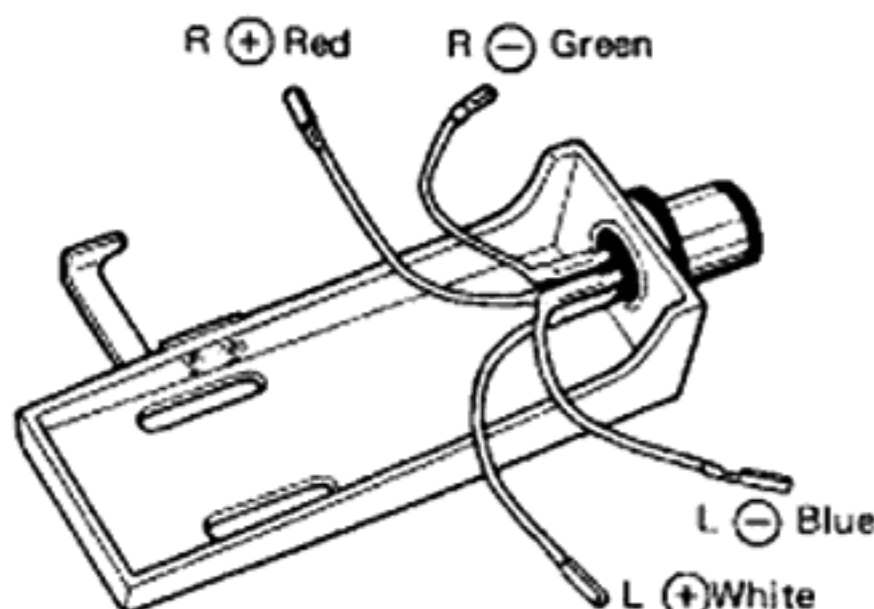

Fig. 9
(1) Attach the cartridge to the head shell with cartridge fixing screws.
(2) The polarities and L, R channel of the lead wire of the head shell are shown in Fig. 9. The connection should be done according to the terminal indication of the cartridge.